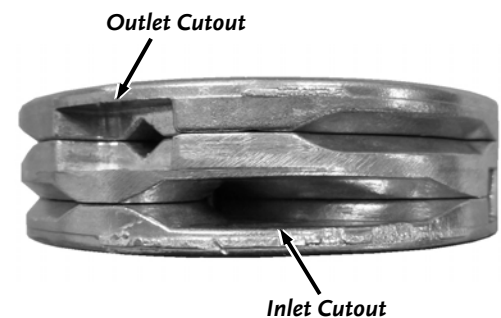

Figure 35
21. Assemble the Plates ensuring that they are aligned properly and the Springs and Cams are seated fully into the Plate grooves. The four Screw holes must be aligned and the two halves of the side cutouts should align from Plate to Plate (**Figure 35**).